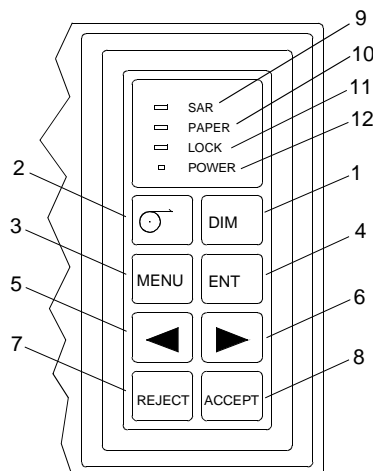

Figure 3. Control Panel
2. Press the DIM key (figure 3, item 1) to adjust paper illumination, touchpad panel backlighting and LED brightness concurrently.
3. Press the FEED key (figure 3, item 2) to advance the paper by one line. To advance the paper more rapidly, press and hold the key. The key is inoperable while a message is being printed.
4. Press the MENU key (figure 3, item 3) to display the main menu.
5. Press the ENT key (figure 3, item 4) to register user set data.
6. Press the left arrow key (figure 3, item 5) to move the cursor leftward.
7. Press the right arrow key (figure 3, item 6) to move the cursor rightward.
8. Press the REJECT key (figure 3, item 7) to reject stations/messages or to enter lower case (small) characters.
9. Press the ACCEPT key (figure 3, item 8) to select stations/messages or to enter upper case (capital) characters. Additionally, it also enables aural monitoring of NAVTEX signal.
The SAR light (figure 3, item 9) illuminates when a Search and Rescue (SAR) message is received. The audio alarm is also activated.
The PAPER light (figure 3, item 10) illuminates when the receiver is out of paper.
The LOCK light (figure 3, item 11) illuminates when messages are being received.
The POWER light (figure 3, item 12) illuminates when receiver power is on.